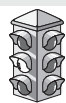

Figure 14.46
- f. Repeat the previous step for the next two parameters: *mean and *dsperr. The "mean" and "dsperr" parameters should also be set to "Adapt to Type" and "Handles by Value." Your function prototype should look like the one in Figure 14.46.